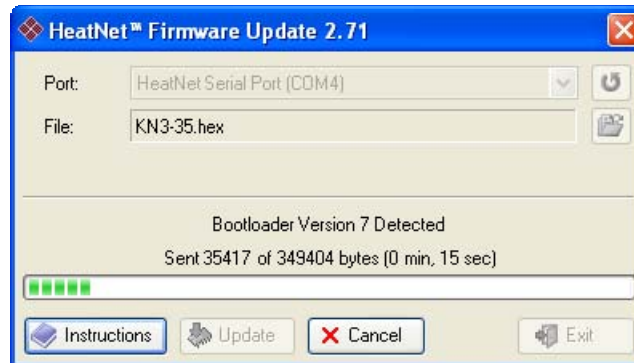

Figure 5: HeatNet Firmware Update - Updating
- 8) Reset the control by turning the power off/on. The update should start within 15 seconds (see Figure 5). If it does not try repeating the power off/on several times. If it still does not start the update, please contact Technical Support.